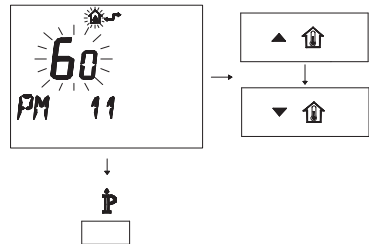

Fig. 8.21
- To modify the programmed SET, act on buttons ▲**UP** or ▼**DOWN** and wait for the programmed number to flash (Fig. 8.21). Each step increased or decreased corresponds to 1 second.